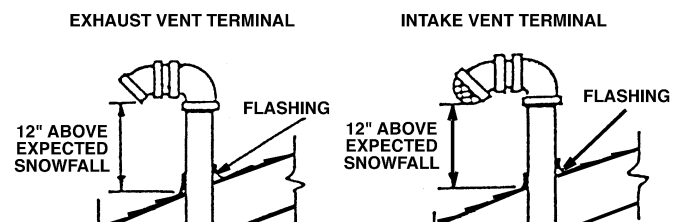

FIGURE 8
6. Terminate intake terminal and exhaust vent terminal facing down as shown in figure 8.